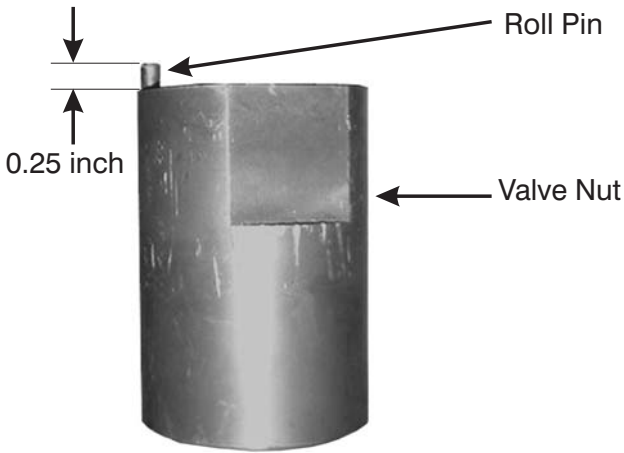

Figure 11-18. Valve Nut and Roll Pin
Inspect the Valve Nut (12) and Roll Pin (11). Verify that the Roll Pin extends 1/4-inch above the Valve Nut (12), as shown in Figure 11-18.